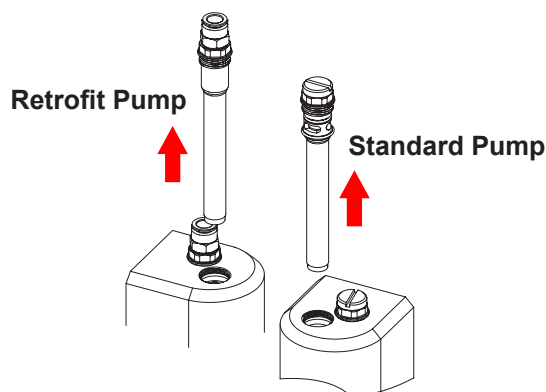

Figure 16 Loosening the Fluidizing Tubes
2. See Figure 16. Loosen the fluidizing tube access plug and pull the fluidizing tube straight out of the pump body.